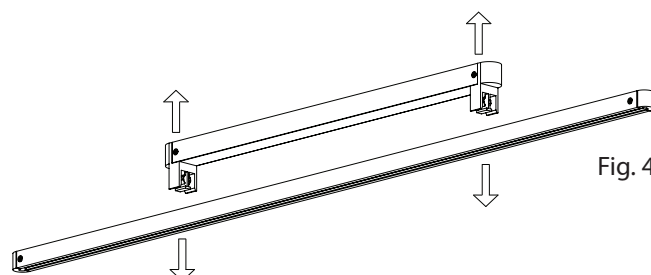

Fig. 4
4. Lift the Light Bar off the Power Bar. (Fig. 4)